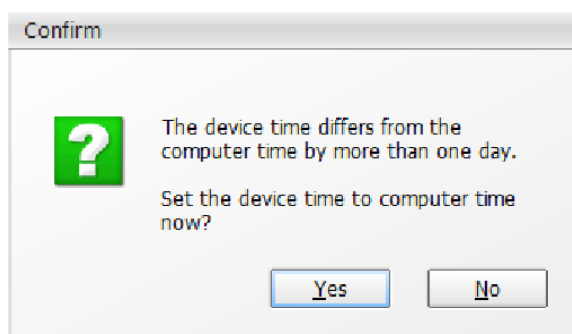

Figure 1.7
8. If the date and time setting in the Scanner differs from the date and time setting in your computer by more than 14,400 seconds (or other threshold specified by the user), the software will prompt you to synchronize the device date and time with the computer date and time. Click **Yes** to synchronize the instrument date and time with your computer (Figure 1.7, page 12). The default threshold is set at 14,400 seconds (4 hours) to prevent undesired prompts when traveling between time zones.